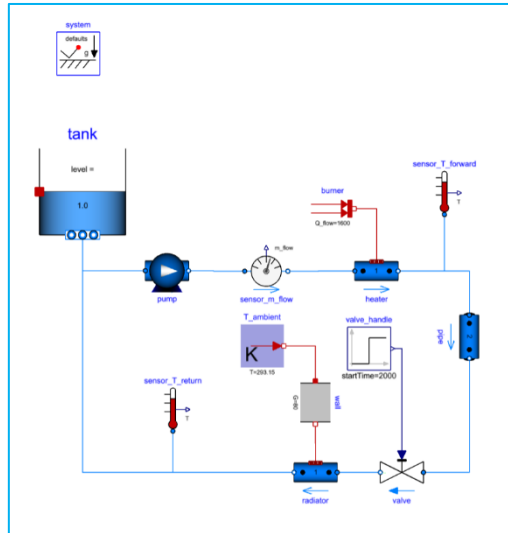

Figure 10 Connect the boundary conditions to the model
9. Connect them according to the schema in **Figure 10**: